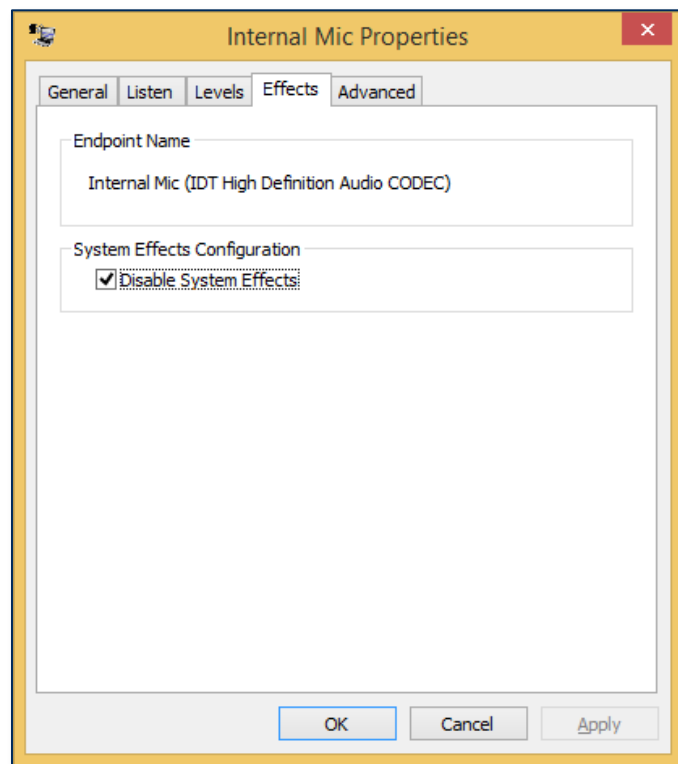

Figure 2-4 Effects Turned Off
- 17) If the **Enhancements** tab has a **Disable System Effects** checkbox, turn it ON. Turn all other effects off. See Figure 2-4 for an example.